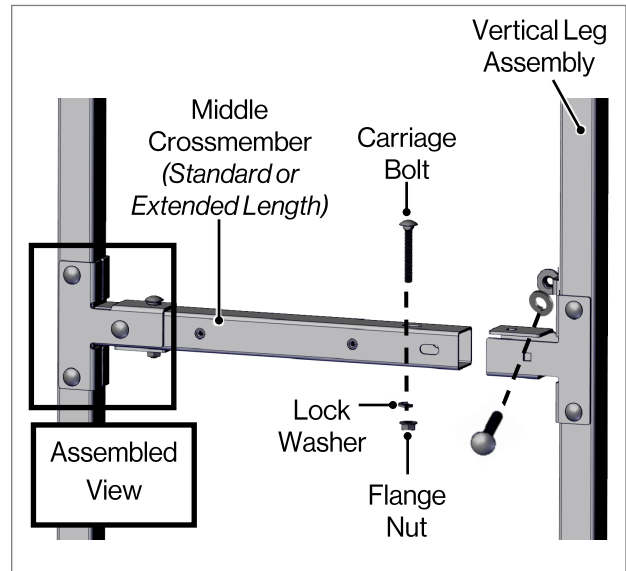

Fig. 4
2. Attach the Middle Crossmember (item # 3) or extended length Middle Crossmember (item # 13) to the Vertical Leg Assemblies with four (4) Carriage Bolts, four (4) Flange Nuts, and four (4) lock washers (Fig 4).